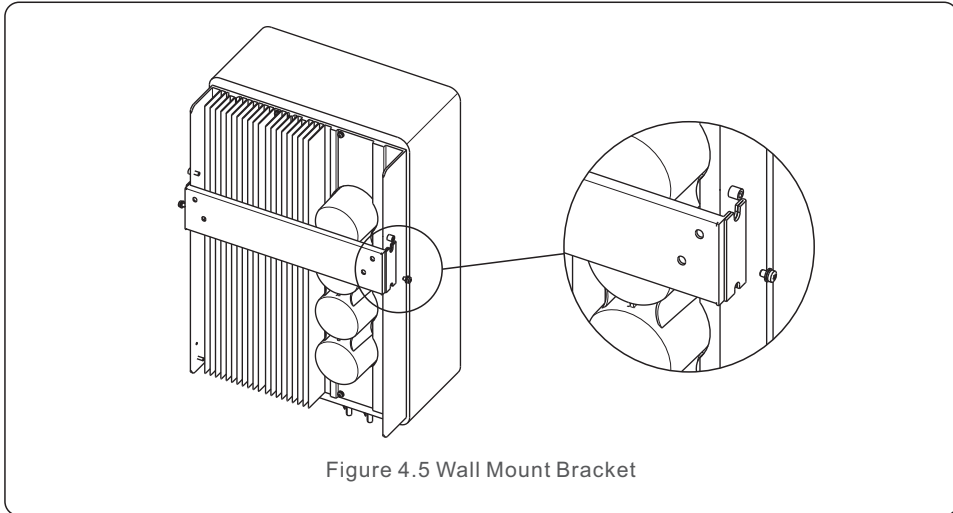

Figure 4.5 Wall Mount Bracket
Please see Figure 4.4 and Figure 4.5 for instruction on mounting the inverter. The inverter shall be mounted vertically. The steps to mount the inverter are listed below.
2. Lift up the inverter (be careful to avoid body strain), and align the back bracket on the inverter with the convex section of the mounting bracket. Hang the inverter on the mounting bracket and make sure the inverter is secure (see Figure 4.5).